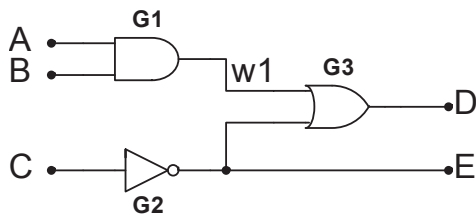

Figure 2: Simple Modeled Circuit
- 2.4. A simple program modeling a circuit (Figure 2) at the gate level is described below as Listings 4,5.